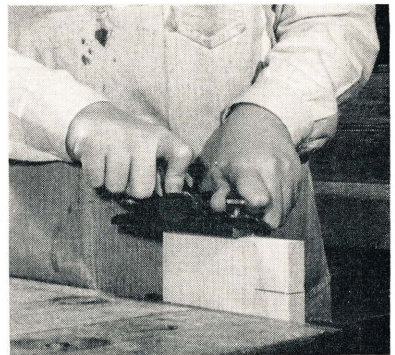

Fig. 18. End planing with block plane.
5. Reduce to right width (Fig. 18).